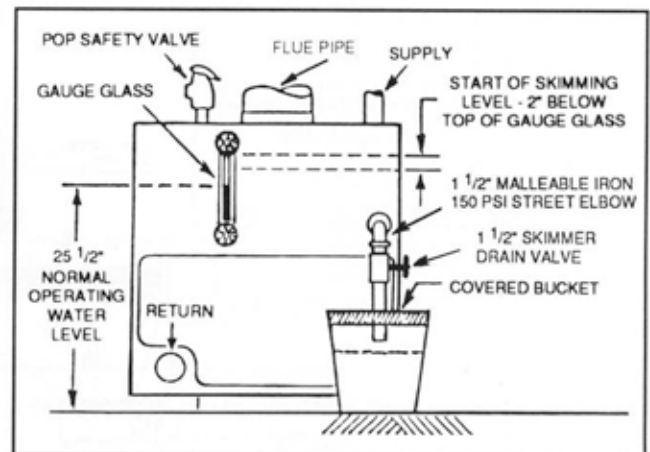

Figure 9.
down one to two inches below skimmer tapping. The water might be hot. Remove skimmer plug slowly and carefully install a 150 psi malleable iron 1-1/2" NPT street elbow, a 1-1/2" NPT skimmer valve and length of pipe and place a bucket underneath the open end of the pipe. Cover bucket with a piece of cloth. (See figure 9.)
- E. Repeat (D) above until all film is skimmed off and the water settles to a normal movement. Add make up fresh water to the boiler as described in (D) above, during the blow-off operation, to maintain the proper skimming water level in the vessel. Empty bucket frequently in order to see the difference in water cleanliness.
- F. When surging has stopped and water is clean, and no film can be seen floating in the bucket, shut off boiler, drain down to level of skimmer tapping, remove valve, plug skimmer tapping and refill the boiler to 24-1/2" water level. After 15 minute operation, readjust level to normal operating level of 25-1/2" from bottom of boiler (see figure 9). Check the pop safety valve for proper operation. Check for low water cut-off operation, see next page.